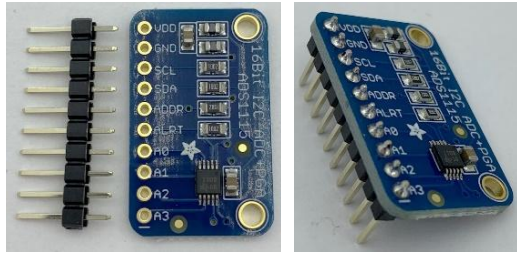

Figure 7: ADS1115 top with male headers separate (left), and with headers attached (right).
1. Solder provided male headers on to the ADS1115 with the short end of the pins sticking up through the top of the board (Figure 7).